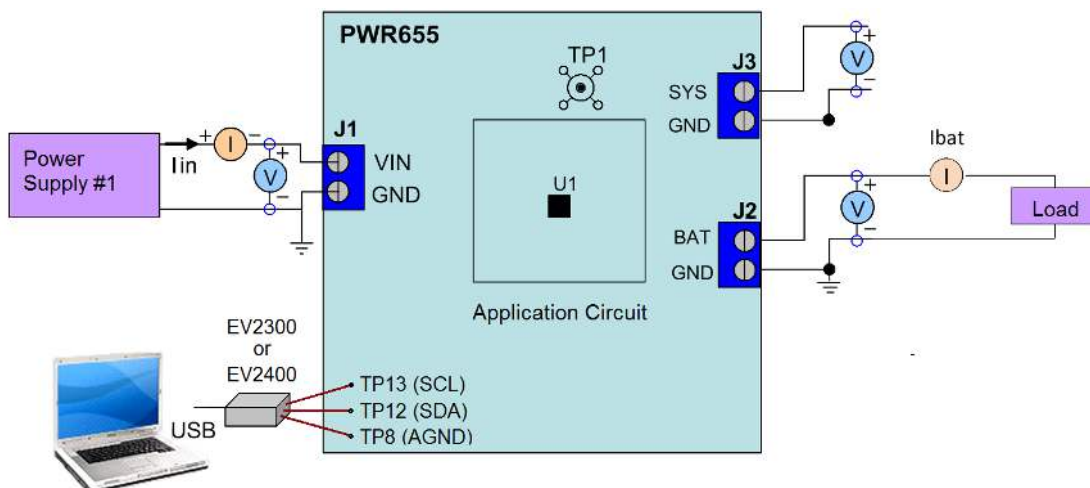

Figure 2. Original Test Setup for PWR655
- Step 4. Turn on the Load, set to constant voltage mode and output to 2.5 V. Turn off (disable) Load. Connect Load in series with a current meter (multimeter), ground side, to J4 (BAT+ and GND) as shown in Figure 2.
Step 7. Figure 2 illustrates the shunt installation.